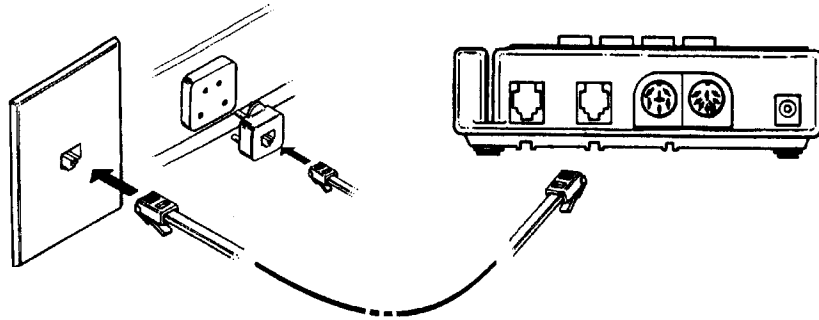

Figure 3-3. Modular Jack and 4-Prong Adapter
3. Connect one end of the line cord to one of the modular jacks at the rear of the terminal. Connect the line cord's other end to a telephone modular wall jack. As figure 3-3 illustrates, either directly insert the modular plug into the wall jack, or use a 4-prong adapter for 4-prong receptacles.